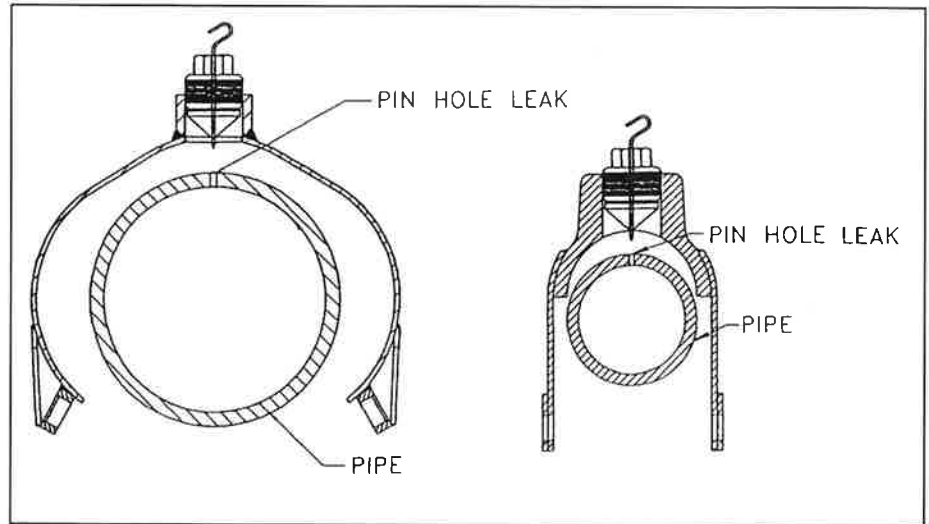

FIGURE 2.
2. Spread the Plidco Smith+Clamp open sufficiently so that it can be assembled around the pipe. (See Figure 2)